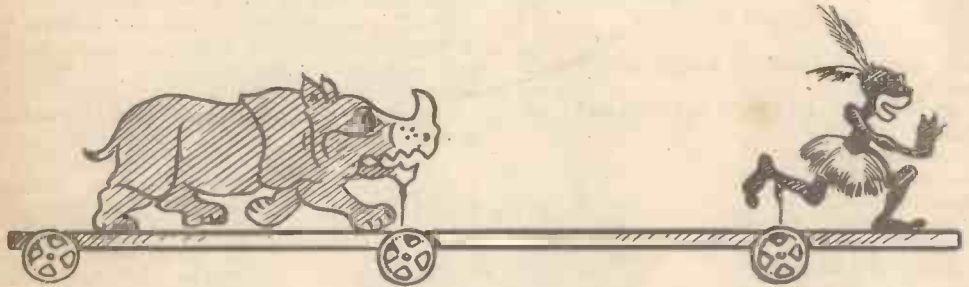
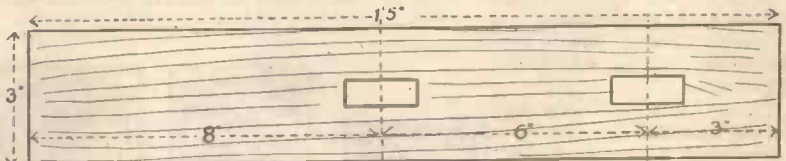

Fig. 1
Fig. 3
**A** NOTHER amusing fretwork toy that might aptly be called the "Ravenous rhinoceros" is shown by our sketch, Fig. 1. It is one of the simple mechanical variety that works on the well-known system of the bent axle, which actuates in this case the jaw of the animal and one of the legs of the figure. The full size fretwork patterns are given by Fig. 2, the rhinoceros being cut out of  $\frac{1}{4}$  in. wood, and the nigger in  $\frac{1}{4}$  in. or 3-16 in. The base of the toy is shown by Fig. 3, which could consist of a strip of  $\frac{1}{2}$  in. or  $\frac{3}{4}$  in. deal, measuring 1 ft. 5 in. by 3 in. Owing to the length, and in order to work the toy, three pairs of small iron wheels will be requisite. Cut two slots in the base in the positions indicated to allow room for the bent cranks, these measuring about  $1\frac{1}{2}$  in. by  $\frac{3}{4}$  in.